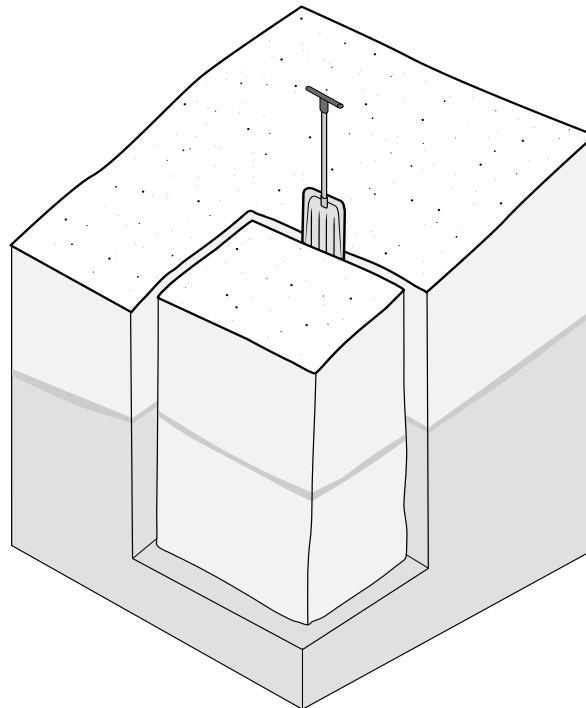

Figure 1-7. Shovel-Shear Test.
- Isolate a column in the uphill pit wall by cutting away the sides with a shovel or ski. The width of this column and the depth cut into the pit should be approximately 12 inches (30.5 cm). The column must be both vertical and smooth (see Figure 1-7).